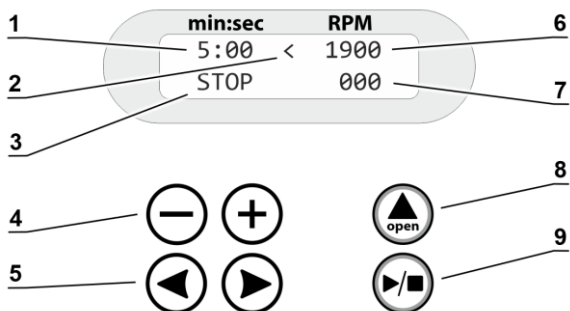

Figure 2. Control panel
- Set time (min:sec, fig. 2/1), parameter selection indicator < or > (fig. 2/2) and set speed (fig. 2/6) in the top row.
- Indication **STOP** (fig. 2/3) and current speed (fig. 2/7) in the bottom row.
5.2.2 Open the protective lid of the unit by pressing the **▲ open** (fig. 2/8). Display shows the **OPEN** indication.
5.3.1 Using the **◀** and **▶ SELECT** keys (fig. 2/5), choose between time and homogenization speed. The **<** or **>** indicator (fig. 2/2) marks the selected parameter.
5.3.2 Using the **+** and **-** keys (fig. 2/4), set the time (fig. 2/1) and speed (fig. 2/6) of the operation. Hold the key pressed to change the values faster.
- 5.4.1 Press the ►/■ **RUN/STOP** key (fig. 2/9) to start homogenization. Display shows the **RUN** indication (fig. 2/4) and current speed (fig. 2/7). Timer starts the countdown when set RPM is achieved. Speed can be changed during the operation.